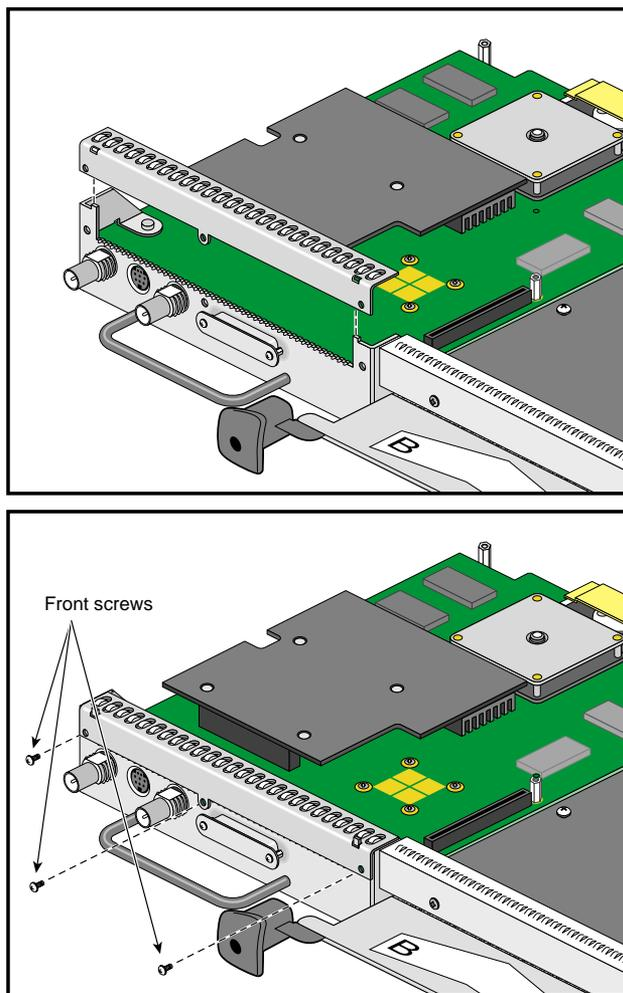

Figure 1-26 Reinstalling the VPro Graphics Board Blank Panel
4. Reinstall the VPro Graphics Board blank panel, as shown in Figure 1-26.